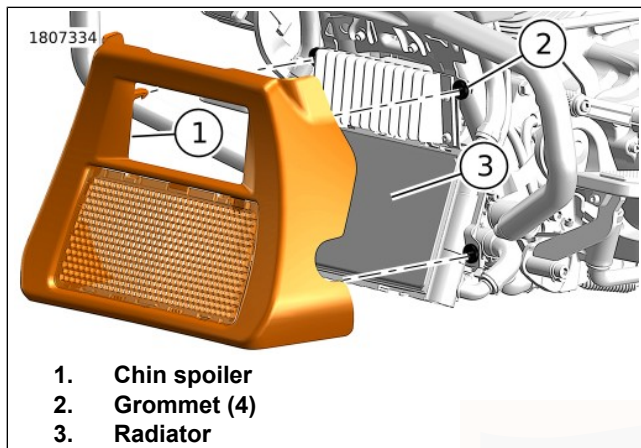

Figure 98. Chin Spoiler
1. See Figure 98. Remove chin spoiler.
- b. Pull chin spoiler (1) straight forward.
2. Clean debris from radiator (3) fins.
- c. Align barbed studs on chin spoiler with grommets (3).